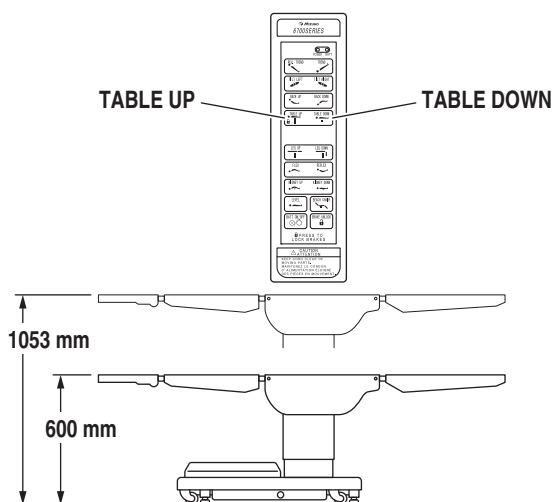

Figure 2-10. Elevation Function
**e. Elevation** To raise table top, press the TABLE UP button (figure 2-10). The table will lift a patient weight of 540 kg up to a maximum height of 1053 mm (1143 mm with X-Ray top and 50 mm pad). To lower the table top, press the TABLE DOWN button. The table top will go down to a minimum height of 600 mm.